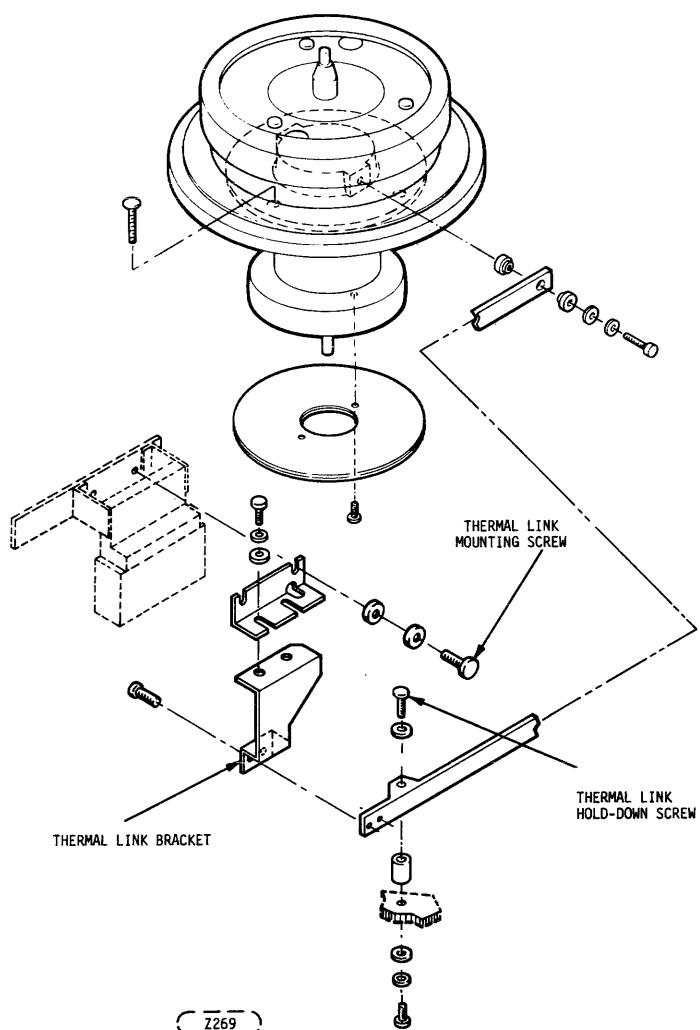

FIGURE 6-9. THERMAL LINK R & R
2. Verify that thermal link bracket is flush with top of transducer scale. If not, adjust thermal link hold-down screw (Figure 6-9).
14. Remove mounting screws from thermal link bracket (Figure 6-9).
15. Remove thermal link hold-down screw (Figure 6-9).
23. Detach thermal link from spindle. Note sequence of fiber washers mounting bolt (Figure 6-9). Swing thermal link out of the way.
4. Install thermal link hold-down screw and tighten until thermal link bracket is flush with top of transducer scale. (Figure 6-9).